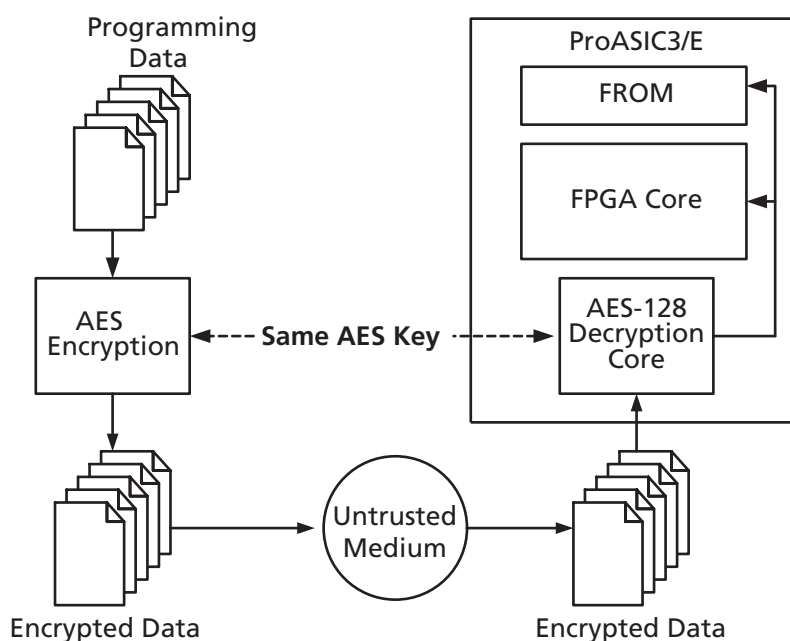

Figure 3 • Programming FROM Using AES
ProASIC3/E devices with AES-based security allow for secure remote field updates over public networks such as the Internet, and ensure that valuable intellectual property (IP) remains out of the hands of IP thieves. Figure 3 shows this flow diagram. See the ProASIC3/E Security application note for details on security features and settings in ProASIC3/E devices.